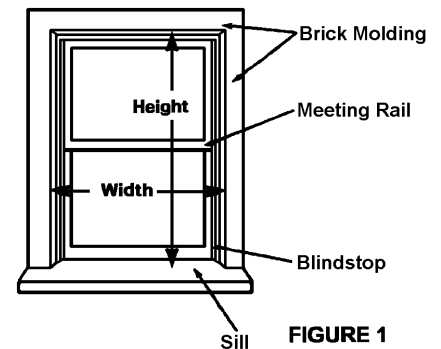

FIGURE 1
- 1) Measure the width at the top (head) and bottom (sill) of the opening the new storm window will be installed into. Record both of these measurements. Measure the height of the storm window opening. Record this measurement. (See Figure 1 on reverse side for measuring and opening details).